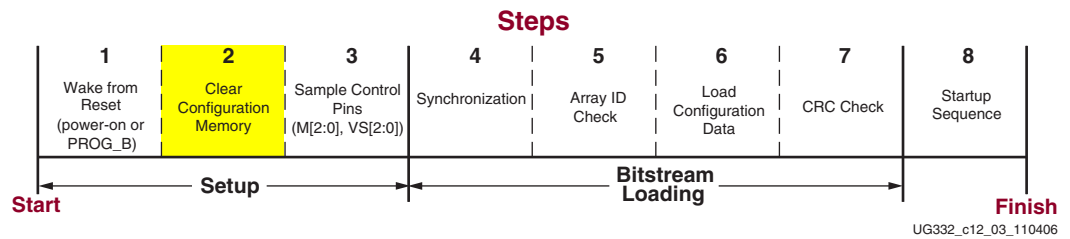

Figure 12-5: Clear Configuration Memory (Initialization)
2. Hold the `INIT_B` pin Low during initialization, which stalls the configuration process in Step 2 shown in Figure 12-5, page 247. However, after the FPGA releases `INIT_B` High, the application cannot subsequently delay configuration by pulling `INIT_B` Low.